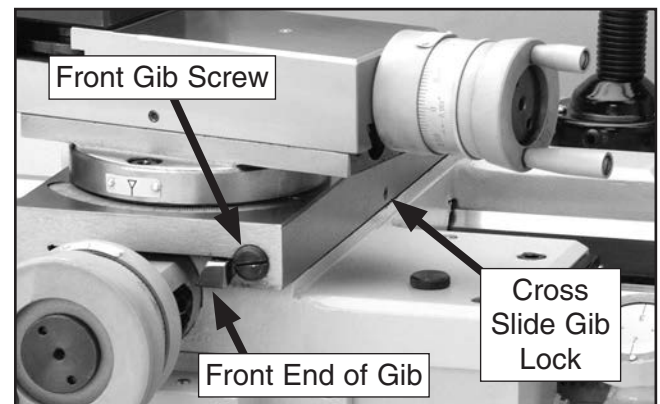

Figure 96. Cross slide gib components.
The cross-slide and compound slide on this lathe each use a long steel wedge called a gib that is positioned between the component and its dovetailed-ways. At the end of each gib is a gib screw one of which is shown in **Figure 96**. The screws at each end of the gib oppose one another to move and hold the gib in a forward or aft position. Depending which direction the gib is moved and held, the space between the sliding ways is increased or decreased to control the rigidity of the cross slide and compound slide.
Tip: The compound and cross slide gibs have a gib lock screw that are shown in **Figures 96–97**. This screw allows the machinist to quickly tighten the locks to hold a gib and slide in a rigid position without having to tighten the gibs. When finished with the need for increased rigidity, the gibs then are quickly unloaded back to their normal state by loosening the screw.
2. Loosen the gib lock shown in **Figure 96**.